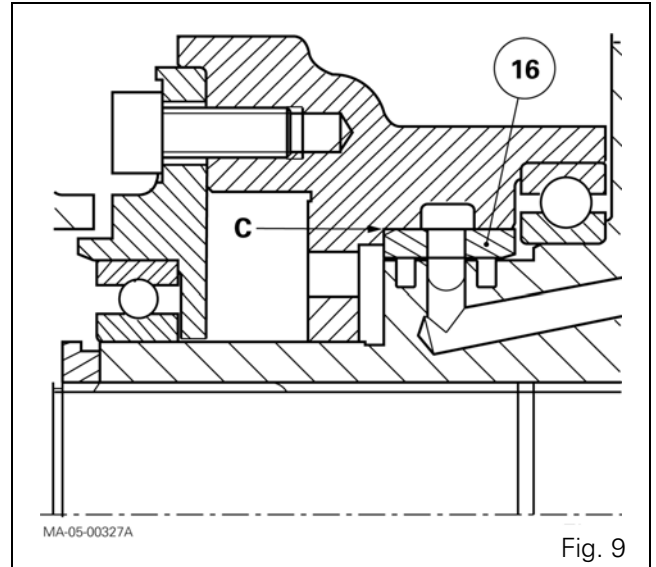
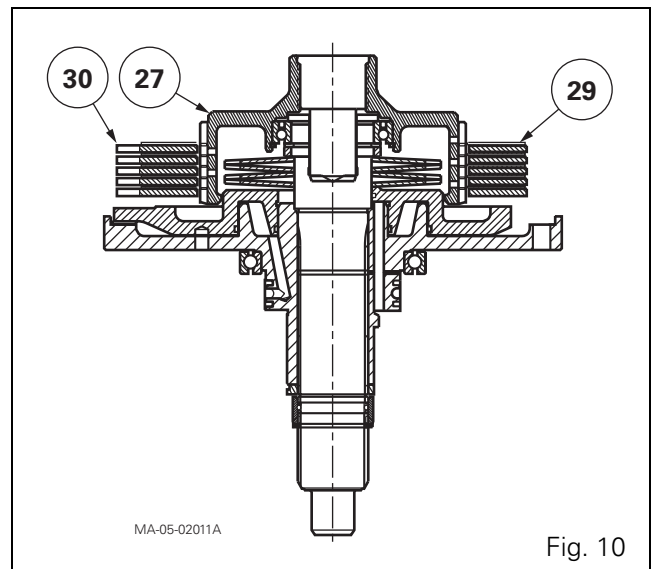

Fig. 9
Fig. 10
- 45. Assemble the unit (18) fitted with the piston (28) on the shaft (19).
- 46. Compress the Belleville washers using the same fixture as in step 28. Position the ring (5), aligning two of the flat sections with those of the unit (18). Replace the rear snap ring (9) and correctly position it in the bottom of the groove.
- 48. Check that the rings (15) turn freely in their grooves. Position the rings, lightly smeared with miscible grease, making sure that they do not protrude beyond the rim of the unit (18).
49. If required, fit the 1.5 bar valve (73). Tighten to a torque of 47 - 54 Nm.
Insert ring (16) using a suitable fixture, with the chamfer "C" turned as shown in Fig. 9.
50. Lubricate the ring. Assemble fixed unit (1) on the unit (18).
51. Lubricate pump (14) with transmission oil and position it aligning the flat sections of the rotor with those on the unit (18).
52. Manually check the angular movement of the rotor on the flat sections of unit (18).
53. Fit the bearing (12) on the cover plate (2) of the pump. Fit the cover plate. Fit the circlip (11) and screws (13) and tighten to a torque of 25 - 35 Nm.
54. Lubricate and fit a new assembly ("O" ring (7) and anti-extrusion rings (8)). Slide on the splined ring (6). Fit a new front snap ring (9).
55. Soak the discs (29) in a transmission oil bath for approximately 1 hour. Check that they are correctly impregnated.
56. Position the intermediate plates (30), by aligning their lugs and the discs (29) on the hub (27) (see note and Fig. 10).